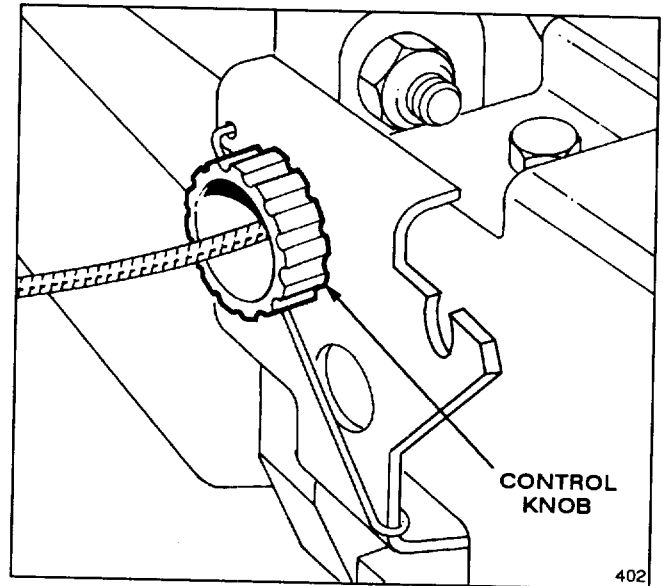

Figure 17
2. ADJUSTMENT (Fig. 17)—Rotate control knob clockwise 1/2 turn if mower does not self-propel. If mower creeps forward, rotate knob 1/2 turn counterclockwise to loosen belt.